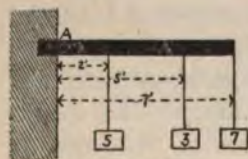

FIG. 4
A. Thus, if a beam is loaded, as in Fig. 4, with three weights, one of 5 pounds at a distance of 2 feet,
There is a shearing strain in Figs. 1, 3 and 4 equal to the total weights, including the weight of the beam itself. Neglecting the weight of the beam, which is not given, there is a total shearing strain at the point A in the problem in Fig. 4 of  $5 + 3 + 7 = 15$  pounds. The shearing strain is always a maximum at one of the points of support, and is equal to the amount of weight supported at that point. If there is but one point of support there is no question of where the